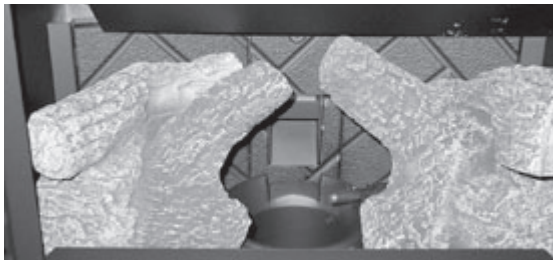

Figure 25.2
4. Push the logs to the far left and far right against the sides of the firebox. **Figure 25.2**